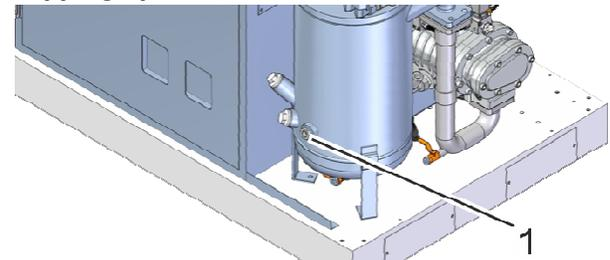

Fig. 27: Filler nozzle
4. Unfasten the filler nozzle (Fig. 27/1), remove it and make sure that the gasket is not misplaced.